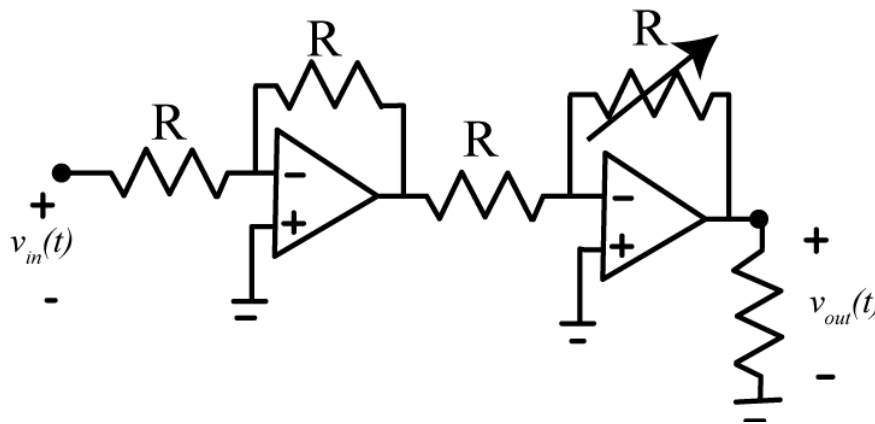

Figure 2. Prefilter (gain) circuit.
1) Build the prefilter, shown in Figure 2. We have included a load resistor for measuring the output. The input to this circuit should be the signal generator, and the output should be the voltage across the load resistor. Set the input to a 50 Hz square wave with a peak to peak value of 2.0 volts and zero offset. Start the oscilloscope and set the input on channel 1 to **A1-Diff** and use this to measure the input signal (never trust a signal generator) and the input on channel 2 to **A2-Diff**, and use this to measure the voltage drop across the load resistor. Set channel 1 to **500 m volt/div** and channel 2 to **2 volts/div** (initially). Set the **Time/Div** to 2.00 ms and the **Mode** to **Y-T**.